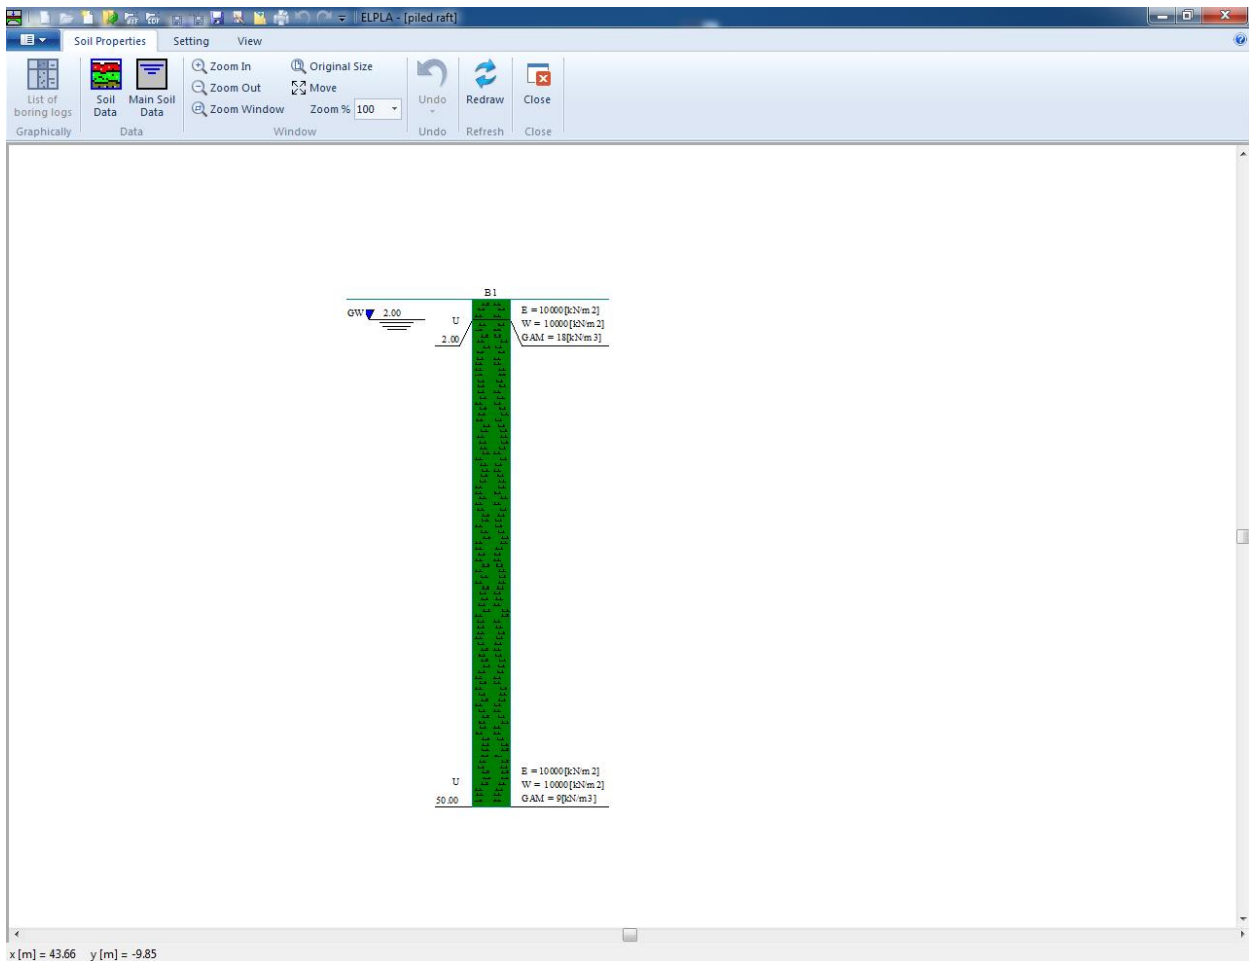

Figure 12.22 Boring log
Now all data and parameters for the boring log have been entered. After finishing the creation of the boring log, click "OK" button in "Soil data" dialog box in Figure 12.21 to see the defined boring log where the user can control or modify the input data and parameters, Figure 12.22.
- Choose "Save" command from "File" menu in Figure 12.22 to save the data of boring log
- Choose "Close" command from "File" menu in Figure 12.22 to close the "Soil Properties" Window and to return to *ELPLA* main window.